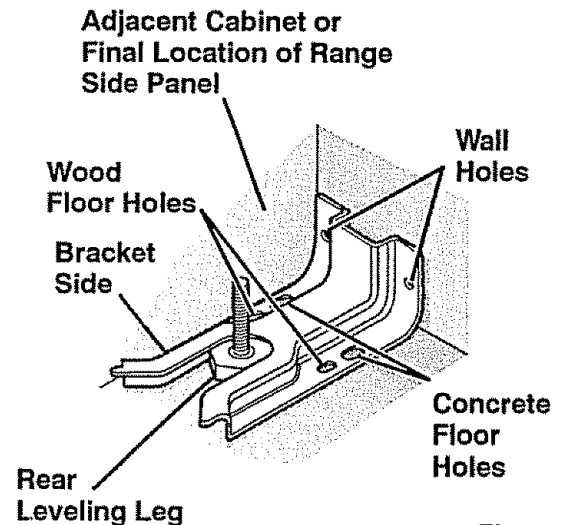

Fig. 1
- Use the bracket as a template and mark 2 hole positions on the wall and 2 hole positions on the floor. Use either the wood or concrete floor set of positions, depending on your floor type. See **Fig. 1**.
- B. Check if the **ANTI-TIP** bracket is installed and engaged properly. Remove the kick panel or storage drawer and inspect the **REAR LEVELING LEG**. Make sure it fits securely into the slot. See **Fig. 1**.